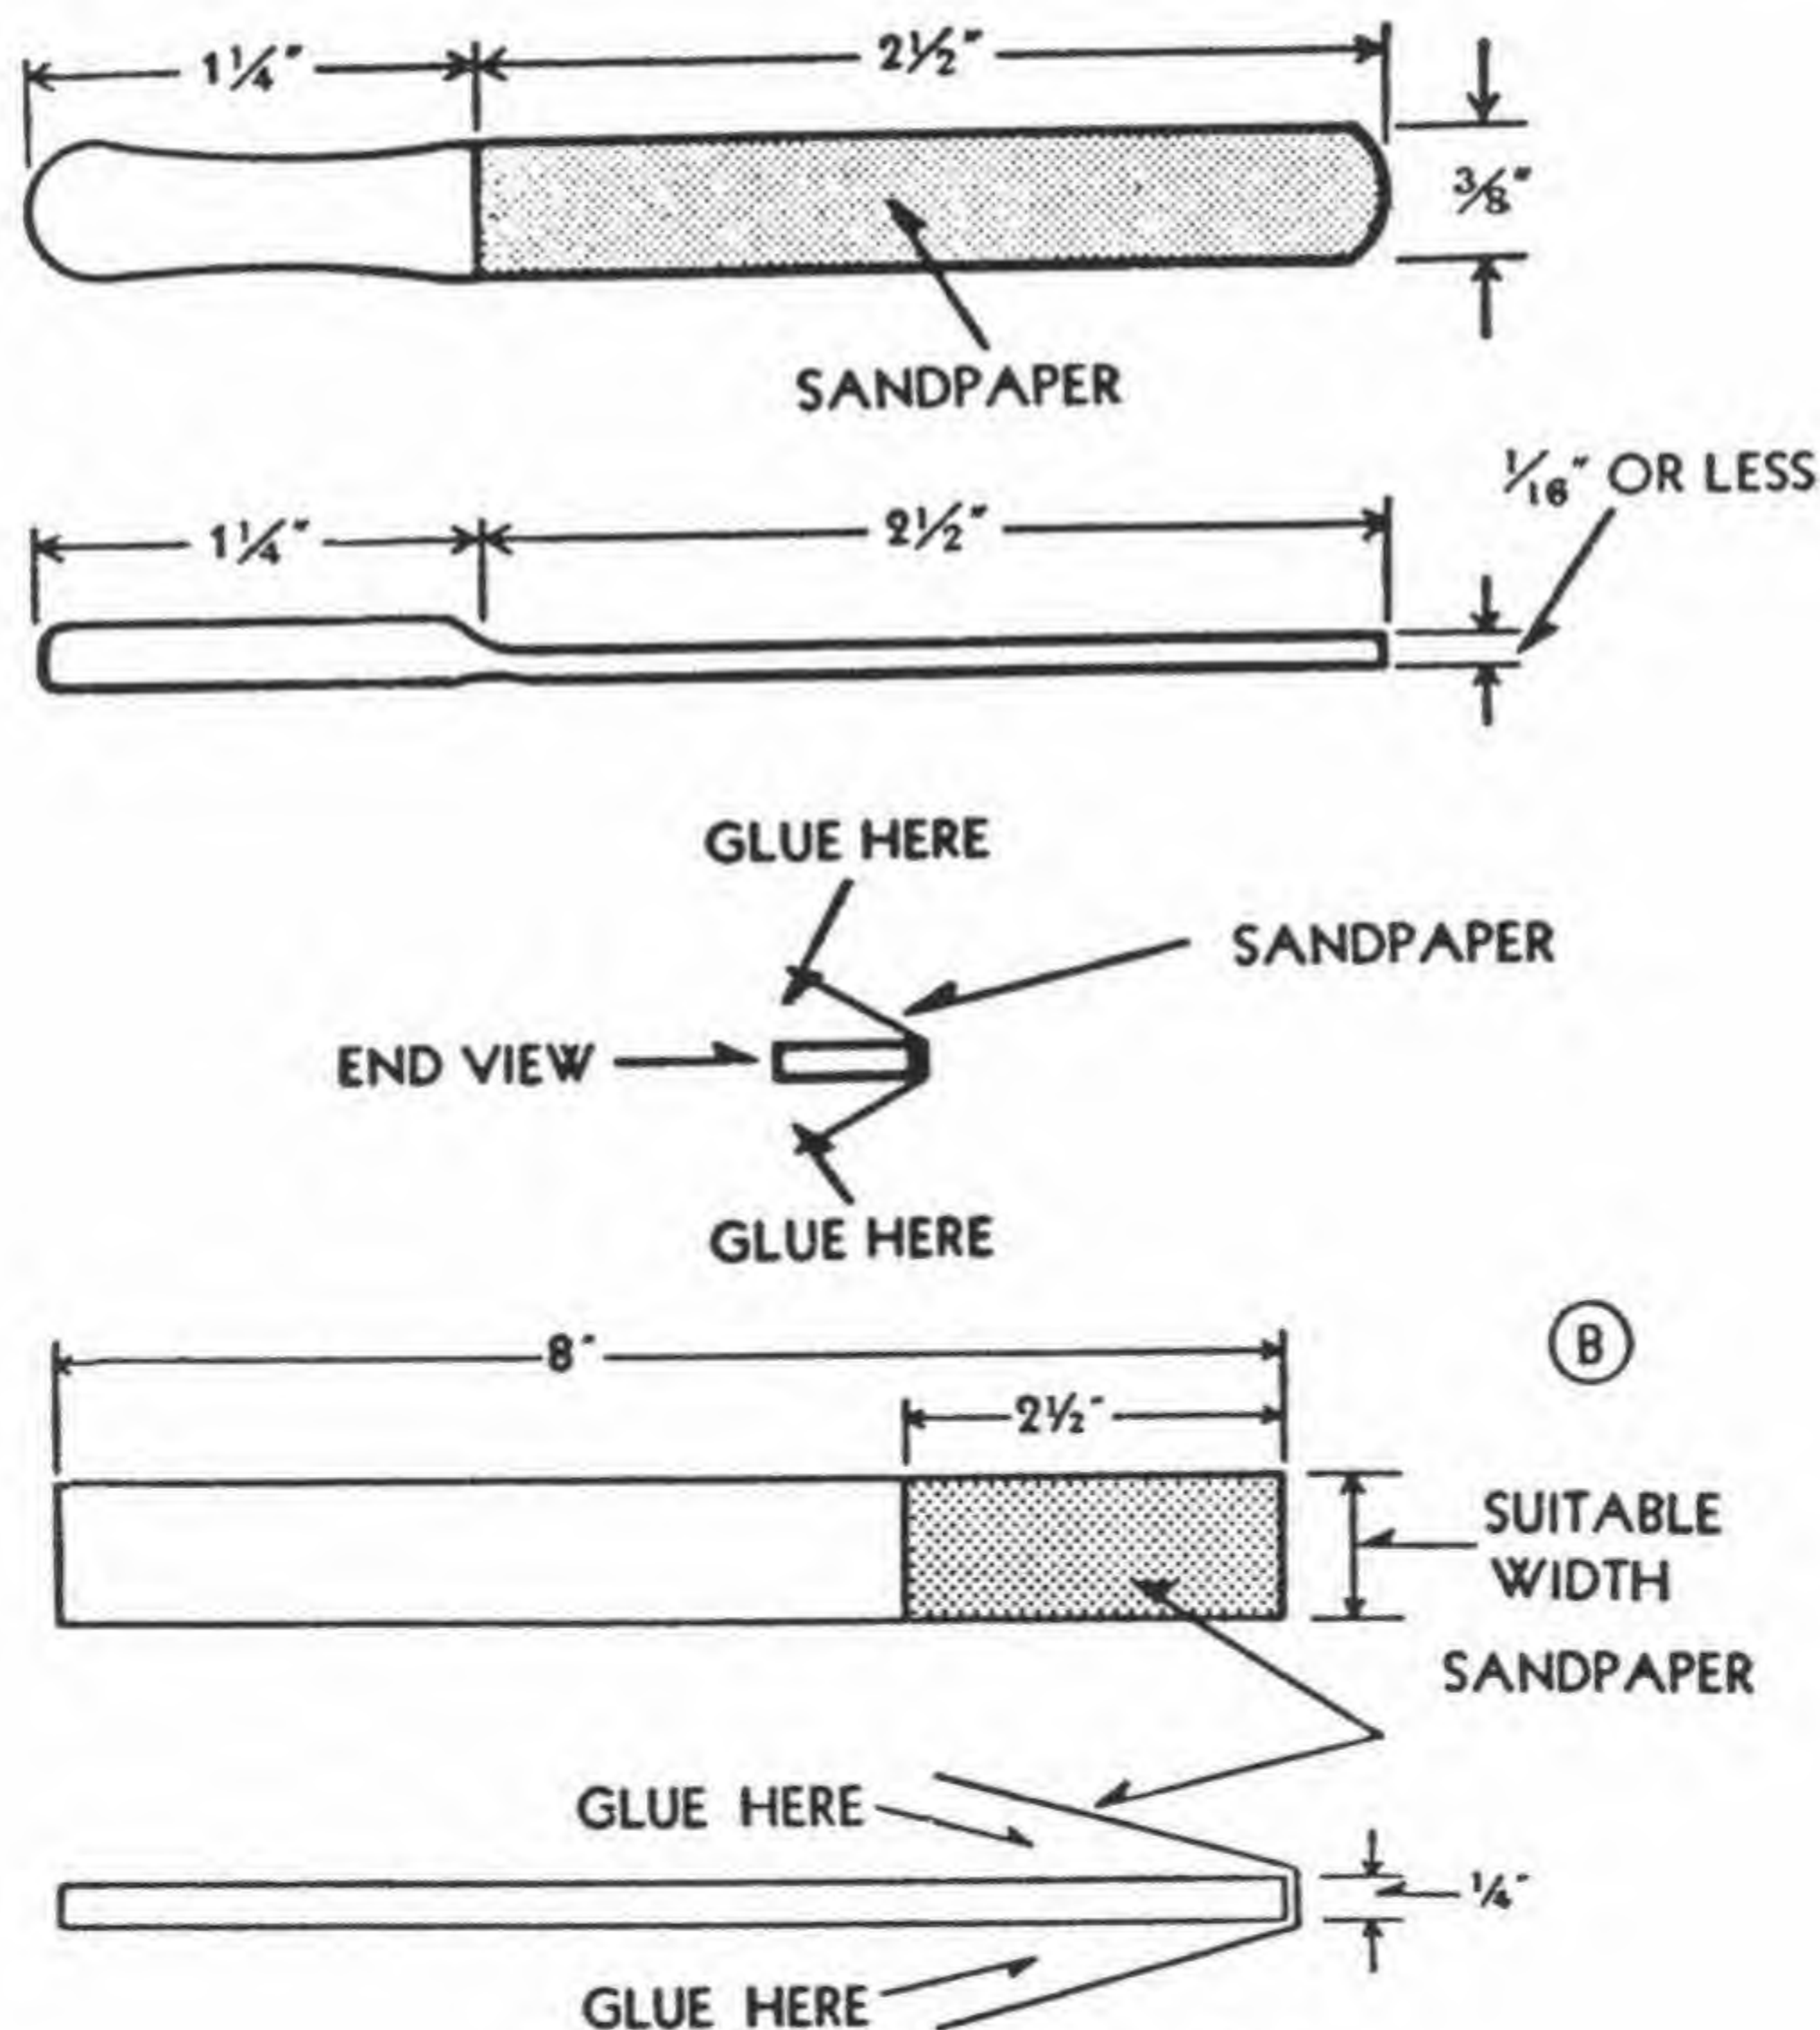

Fig. 11—Contact Cleaning Tool
- (1) Dental mirror, non-magnifying.
- (2) Paint brush.
- (3) Lint-free cloth.
- (4) #0000 sandpaper strip $\frac{3}{4}$ " x 6".
- (5) Sandpaper on stick, see Fig. 11 for construction details.
- (6) Burnishing tool.
- (7) Fine-cut file.